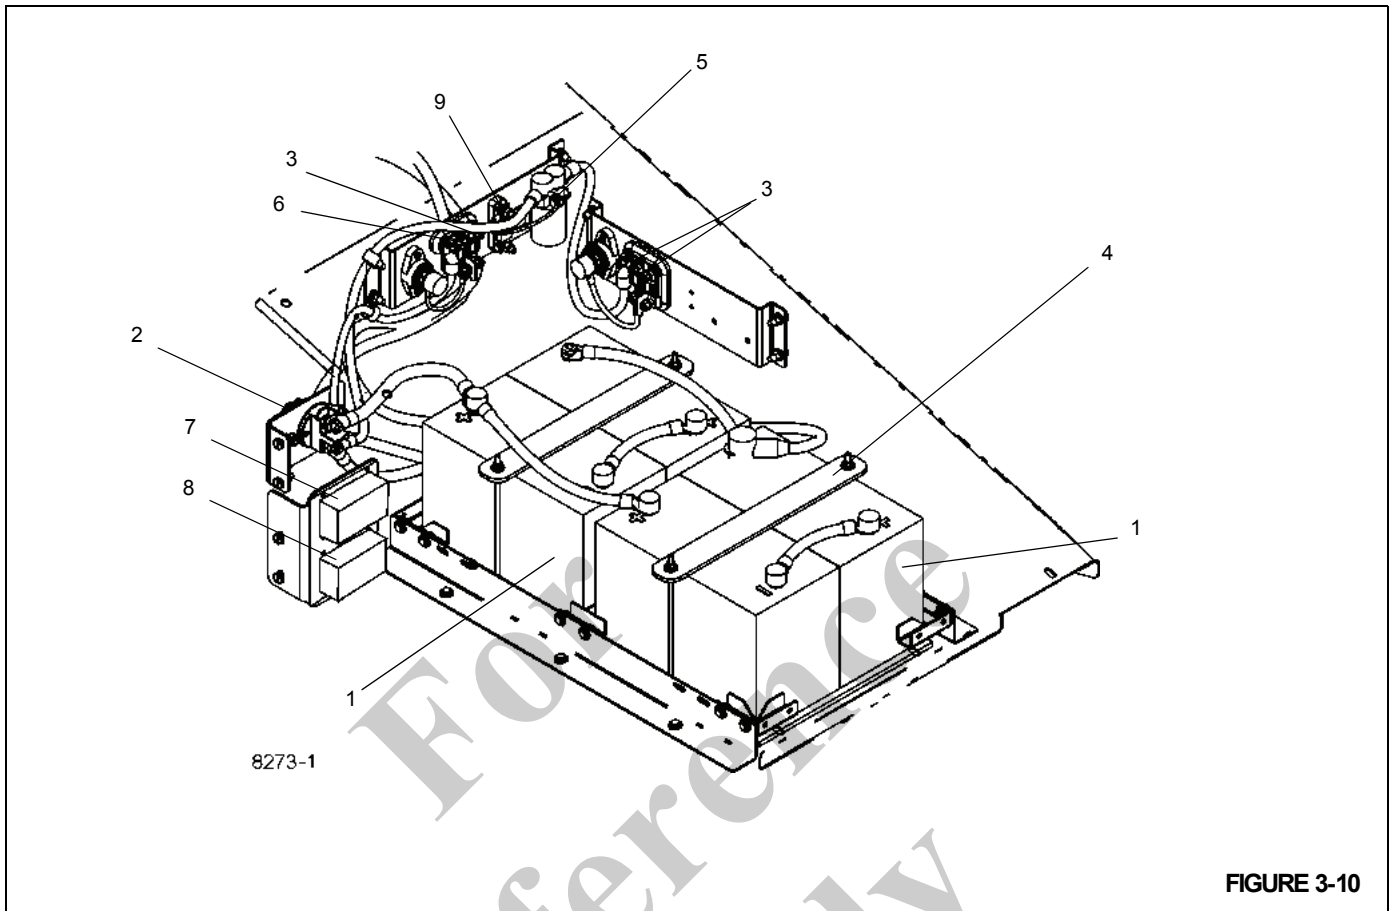

FIGURE 3-10
The carrier has 5 large ANL type fuses, (2) Fuse and Relay Modules containing 14 ATO mini style fuses and 7 relays, all located within the battery compartment as shown in Figure 3-10.